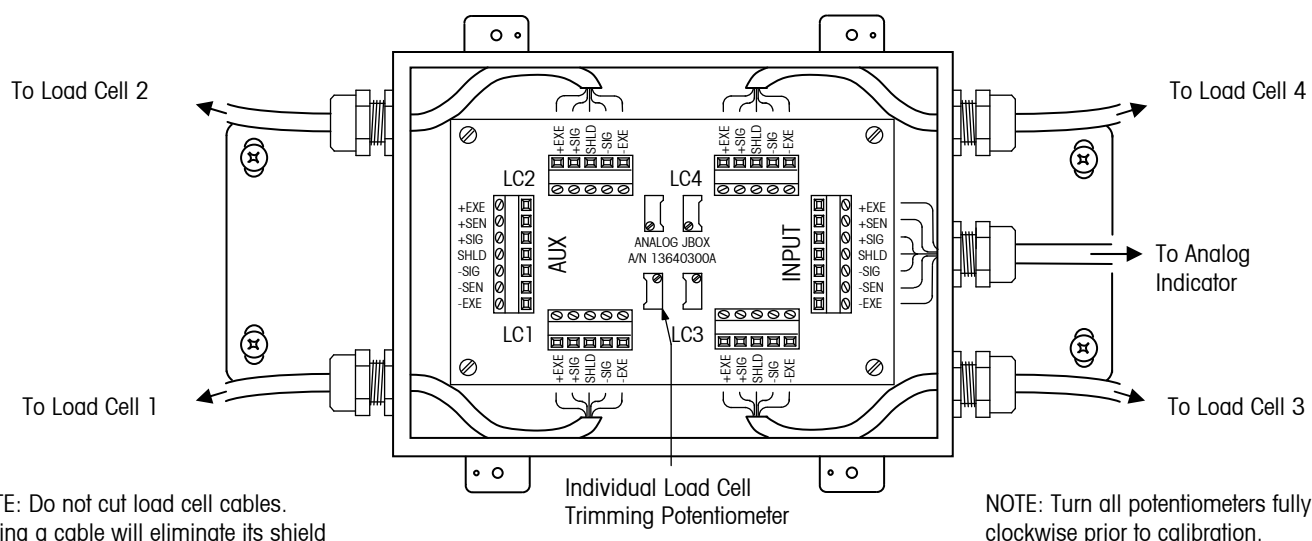
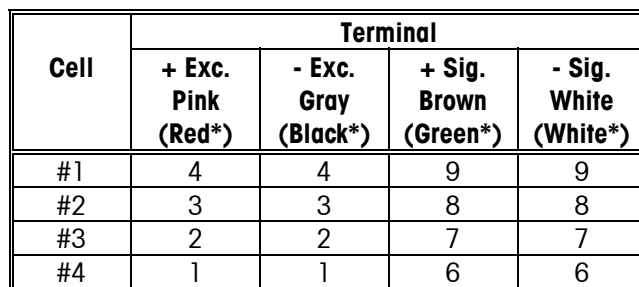

Figure 3-3: Analog Junction Box Detail
Figure 3-5: IDNet Junction Box Detail and Wiring
Model 0970 weigh modules can be used with an analog junction box for summing the load cell outputs. Only analog-compatible indicators work with an analog junction box. See Figure 3-3 and Table 3-2 for cable connections.
1. Wire the home run cable to the PCB according to Figure 3-3 for Analog, Figure 3-4 for RAAD, or Figure 3-5 for IDNet.